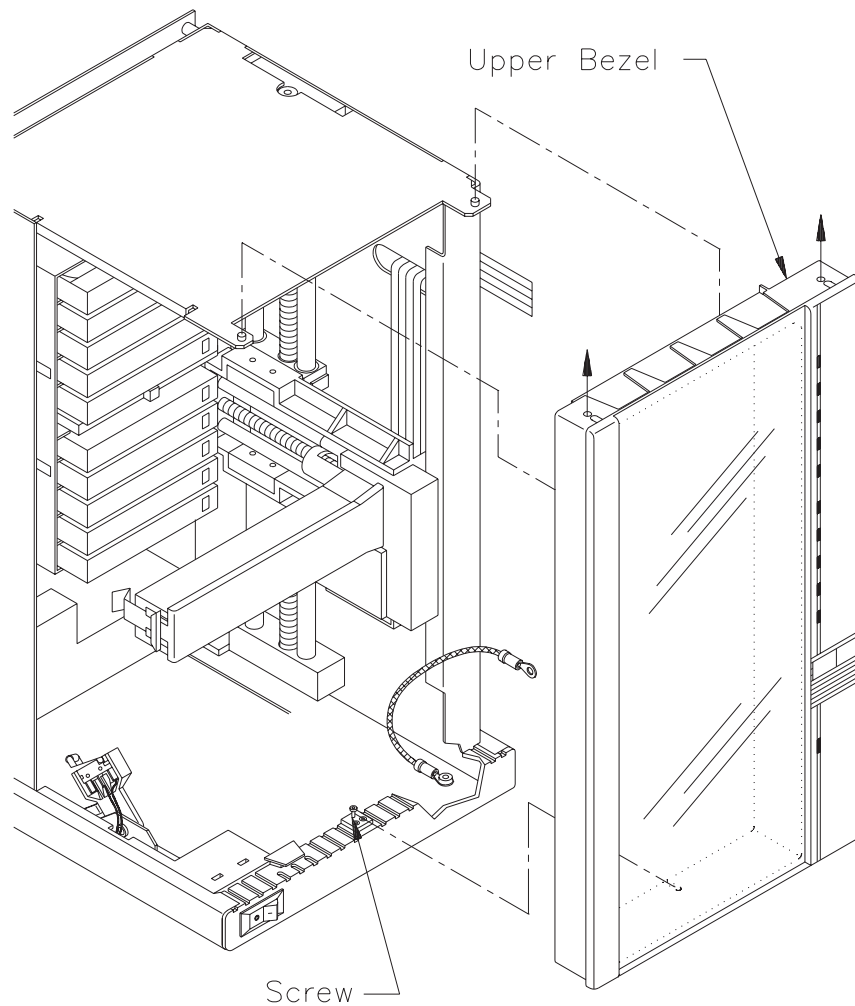

Figure 3-8 Removing the upper bezel (cables shown disconnected)
1. Using a T-10 TORX driver bit, loosen (but do not remove) the single screw located on the inside lip of the door threshold, which is at the base of the upper bezel. The screw is shown in Figure 3-8.
Lift the upper bezel off the two studs at the top of the EXB-10i, as shown in Figure 3-8.
3. Align the two holes on the top of the upper bezel with the two studs at the top of the EXB-10i. (See Figure 3-8.)